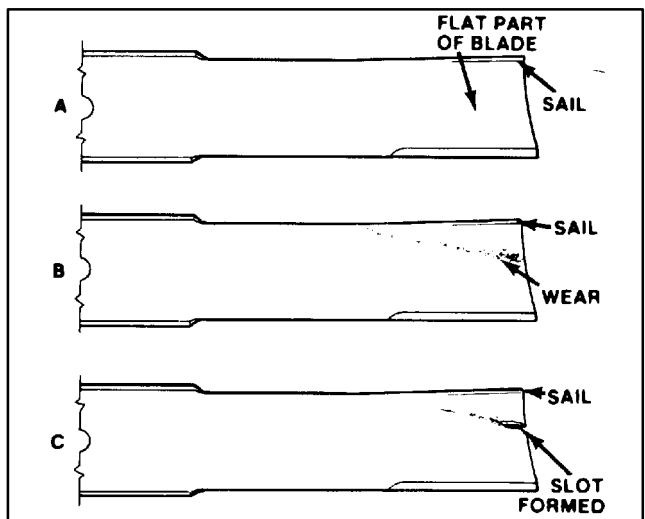

Figure 81
(Fig. 81)
2. Examine cutting ends of the blade carefully, especially where the flat and curved parts of the blade meet (Fig. 81–A). Since sand and abrasive material can wear away the metal that connects the flat and curved parts of the blade, check the blade before using the machine. If wear is noticed (Fig. 81–B), replace the blade: refer to Blade Removal and Installation, page 40.